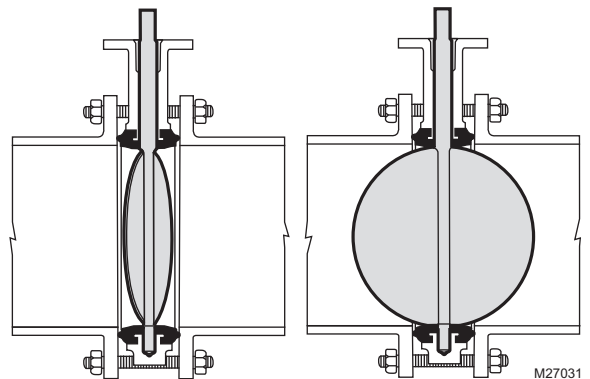

Fig. 19. Valve installation disk positions
9. When flanges have cooled from welding, position the disk in the partially open position, about 10°, keeping the disk at least 3/8 in. (7 mm) inside the body faces. See Fig. 19.